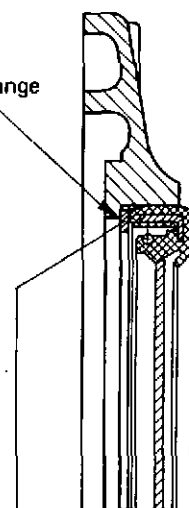

Fig. 6
- Introduce shim 6.000.0.340.004.4, pressing seal fully home against shim with installation plate 6.206.0.690.008.4 (Fig. 6).